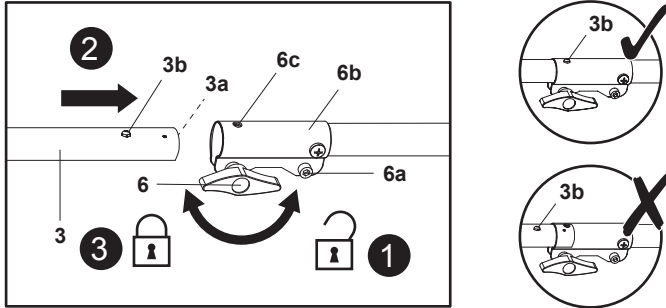

Fig. 1
1. Loosen the lock knob (6) anticlockwise (Fig. 1, step 1).
2. For example: Remove the protective sleeve (3a) firstly, then align the grass trimmer / brush cutter pole (3) with the locking sleeve (6c) and insert it (Fig. 1, step 2). Make sure the locking pin (3b) matches the bore (6c).
4. Secure the connections with the lock knob (6) (Fig. 1, step 3).